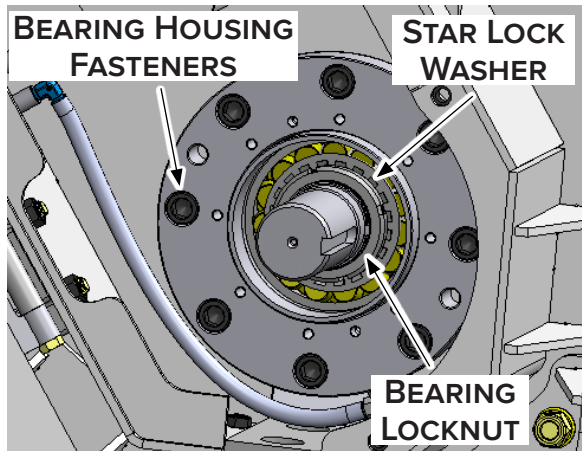

Figure 23
13. With a 14 mm Allen key, torque the bearing housing fasteners to 175 lbf·ft (236 N·m) with a medium strength threadlock. See Figure 23.